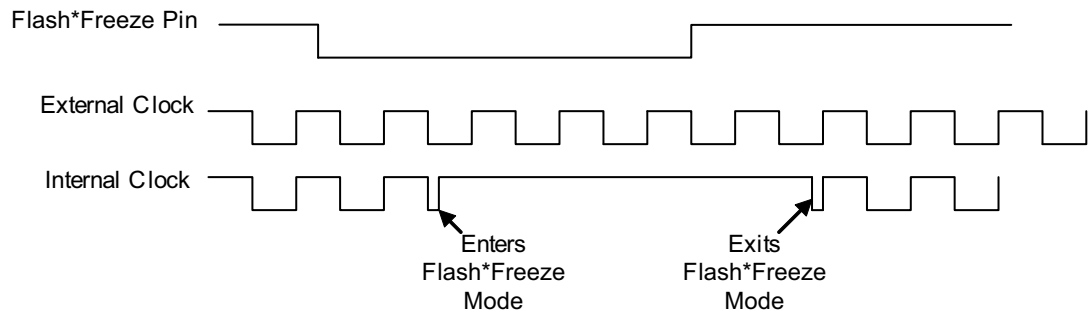

Figure 2-5 • Narrow Clock Pulses During Flash*Freeze Entrance and Exit
- While entering Flash*Freeze mode, inputs, globals, and PLLs will enter their Flash*Freeze state asynchronously to each other. As a result, clock and data glitches and narrow pulses may be generated while entering Flash*Freeze mode, as shown in Figure 2-5.
- Microsemi recommends using a completely synchronous design in Type 2 mode with Flash*Freeze management IP cleanly gating all internal and external clocks. This will prevent narrow pulses upon entrance and exit from Flash*Freeze mode (Figure 2-5 on page 30).